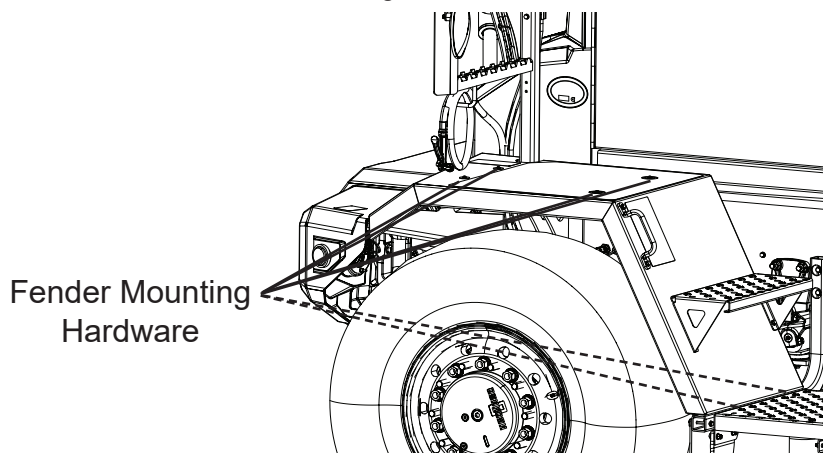

Figure 3 Left-Hand Fender Removal
8. Remove the 6 bolts/nuts and 12 washers securing the left-hand fender to the fender supports and remove the fender from the truck. See Figure 3.